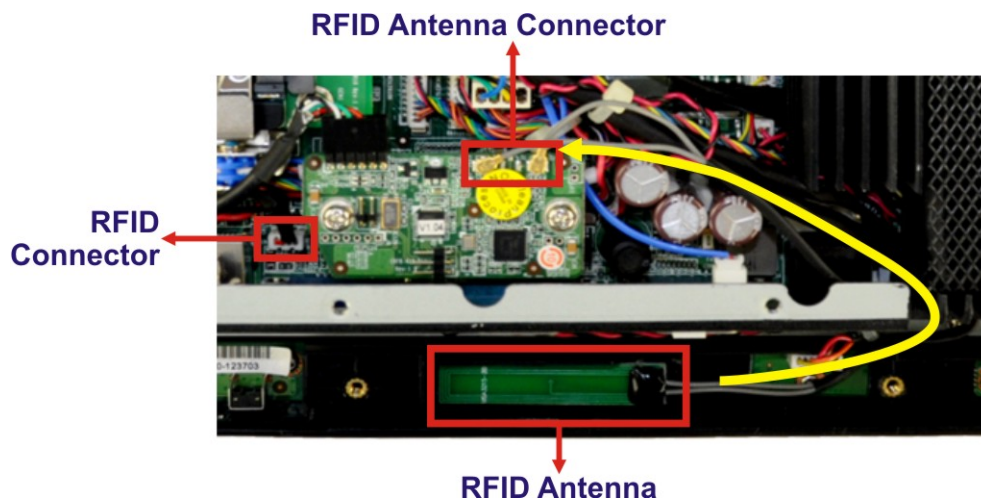

Figure 3-10: RFID Reader Connection
Step 4: Connect the RFID module to the RFID connector on the main board (**Figure 3-10**). The RFID connector pinouts are listed in Section 8.2.17.
Step 5: Place the RFID antenna on the location shown in **Figure 3-10**. Connect the RFID antenna to the RFID antenna connector on the RFID module.